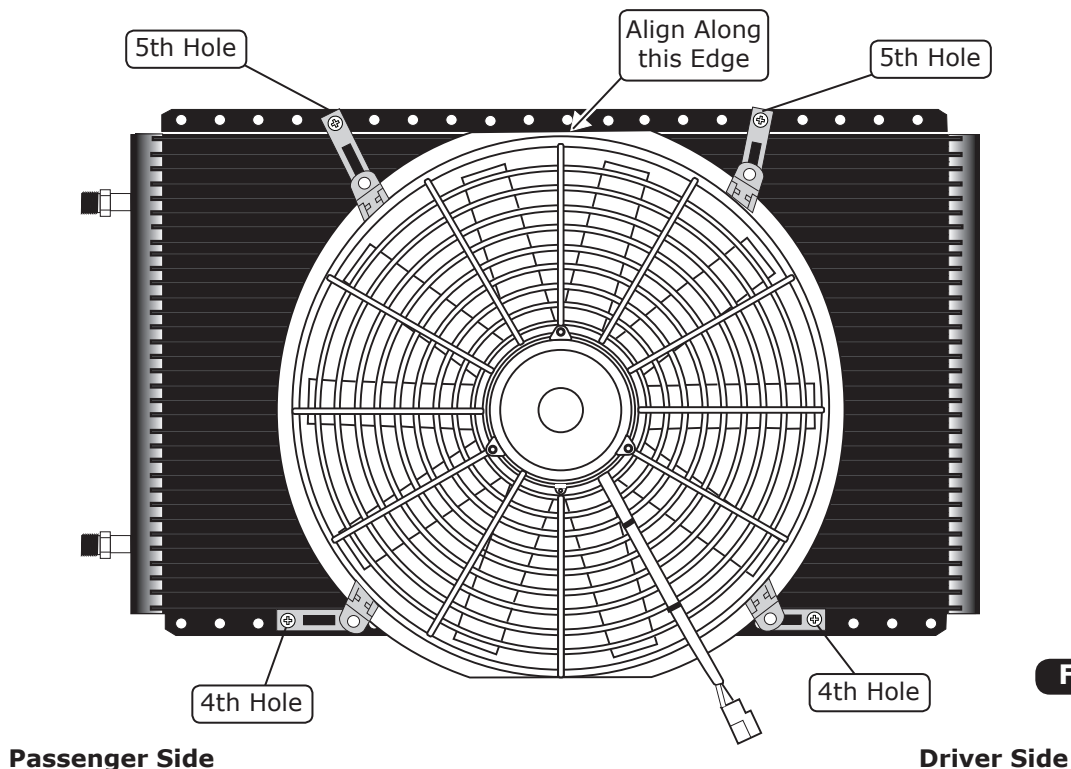

Figure 2
2. Loosely attach the brackets to the condenser using (4) 10-24 x 3/8" screws and (4) 10-24 nuts with star washers. **NOTE: Be sure to use the correct mounting holes on the condenser (See Figure 2, below).**